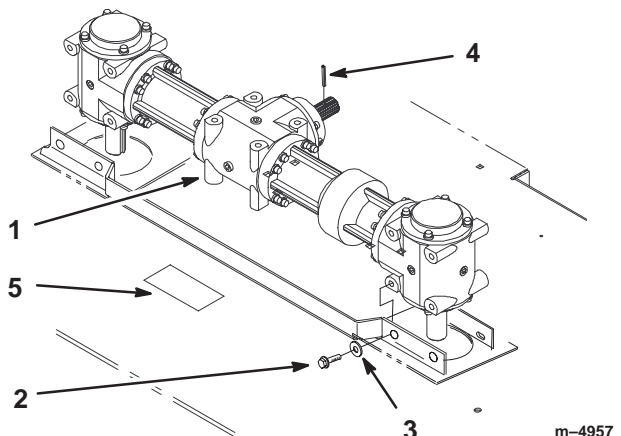

Figure 4
1. Place new gearbox on mower. The vertical output shafts should be centered in the two cone-shaped recesses in the top of the mower (Fig. 4).
2. Insert bolts, with washers, through mounting brackets and into gearbox mounting holes (Fig. 4). Torque mounting bolts to 260 ± 25 in.-lbs.